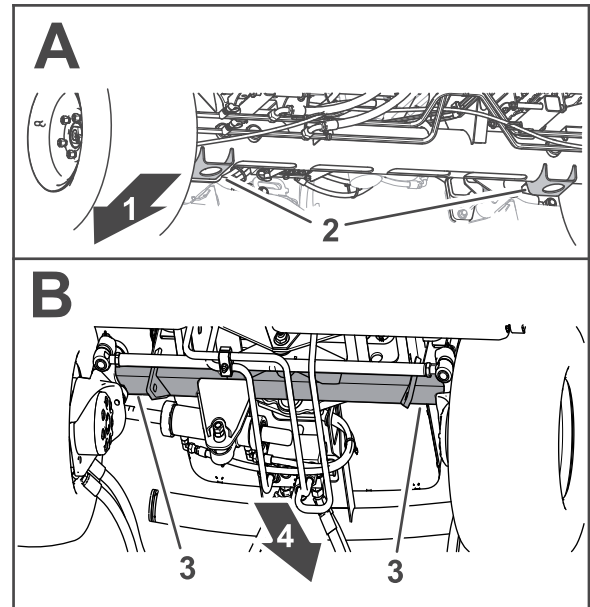

Figure 70
- Front—the jack brackets of the front-axle tube (Figure 70).